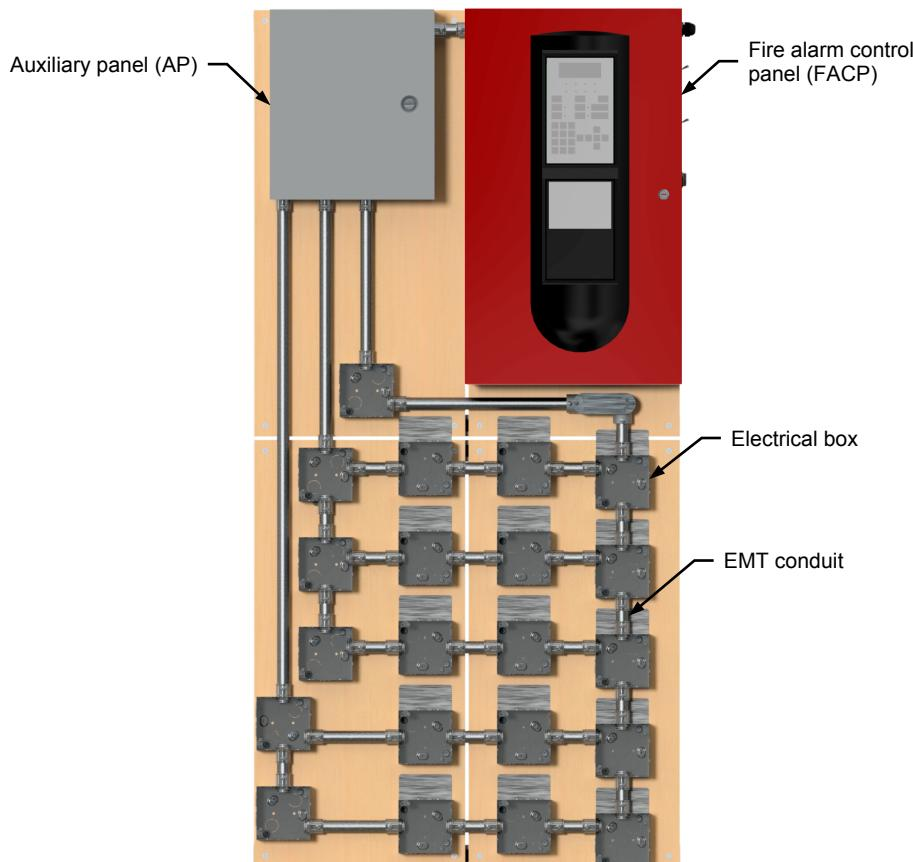

Figure 1. Addressable Fire Alarm learning system.
As Figure 1 shows, the learning system mainly consists of a fire alarm control panel (FACP), an auxiliary panel (AP), electrical boxes, and conduits. The components supplied with the system include smoke and heat detectors, fire alarm stations, a horn, and many other components that mount in the electrical boxes. Connections are made using shielded cables running in EMT conduits.